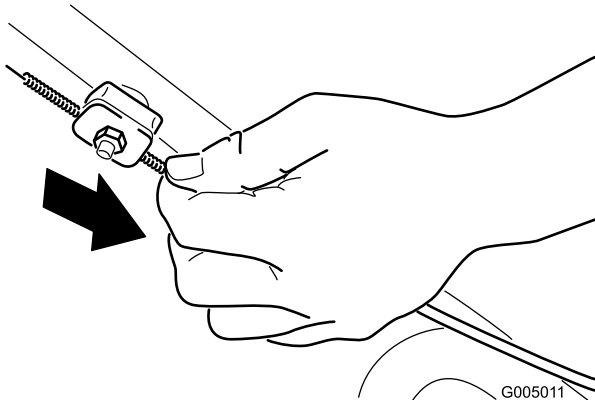

Figure 30
2. Pull down the cable jacket (toward the machine) until there is no slack in the cable (Figure 30).